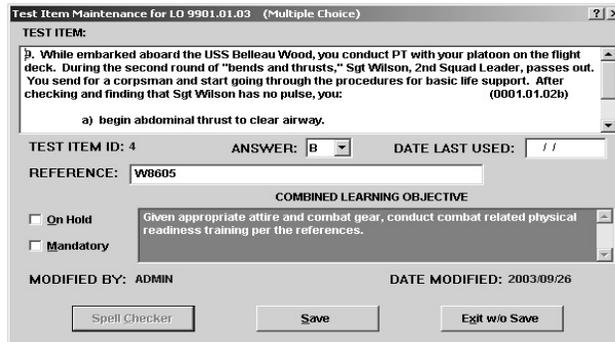
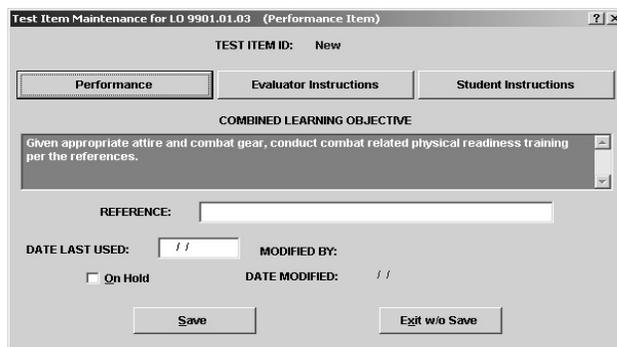
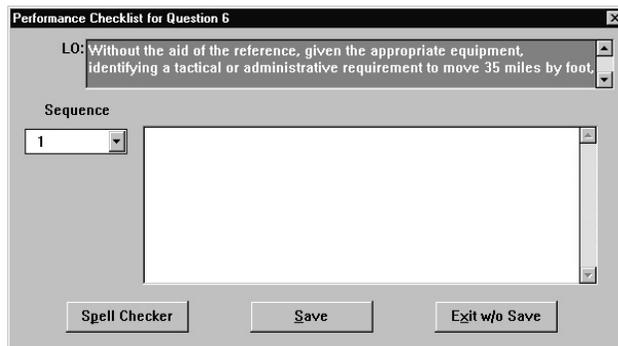

Figure 6-65. Test Item Maintenance for LO (Multiple Choice)
Figure 6-66. Test Item Maintenance for LO (Performance Item)
Figure 6-69. Performance Checklist for Question
- a. If you select Multiple Choice or True-False, the Test Item Maintenance for LO dialog box (Figure 6-65) opens. Note that the title bar identifies the TLO or ELO designator with which you are working. The title bar also identifies the test item type as Multiple Choice or True-False.
(2) Click on **Save**. If you have not entered a test item, you receive a message advising you that you must enter a test item prior to saving. Click on OK. Otherwise, MCAIMS returns you to the Learning Objective Test Items for LO selection list box. When you click on Done, a message advises you to reprint the LOW for this learning objective if changes to test items have been made. Click on OK to return to the Learning Objective Maintenance selection list box.
b. If you select Performance, the Test Item Maintenance for LO (Performance Item) dialog box (Figure 6-66) opens. Note that the title bar identifies the TLO or ELO designator with which you are working. The title bar also identifies the test item type as Performance Item.
- (b) Click on **S**ave. This returns you to the Test Item Maintenance for LO dialog box (Figure 6-66).
- (b) Click on **S**ave. This returns you to the Test Item Maintenance for LO (Performance Item) dialog box (Figure 6-66).
- (3) Referring to Table 6-126 for an explanation of the data fields, complete the required information.
- (4) Click on **S**ave. The system returns you to the Learning Objective Test Items for LO.
- c. If you select Performance Checklist, the Test Item Maintenance for LO (Performance Checklist) (similar to Figure 6-66) opens.
- (1) Click on **Performance Checklist**. The Performance Checklist for Question dialog box (Figure 6-69) opens. Note that the title bar identifies the question number with which you are working.
- (3) Click on **Add**. The Performance Checklist for Question dialog box (Figure 6-69) opens.
- (4) If you wish to edit an existing checklist item, highlight the desired item and click on **Edit**. A dialog box (similar to Figure 6-69) opens for you to edit the item or resequence it. Make the appropriate changes. Click on **Save** to return to the Performance Checklist for Question selection list box.
- (5) If you wish to delete checklist item(s), use the multiple select feature to highlight the desired item(s) and click on **Delete**. A message appears to confirm your wish to delete the checklist item(s). Click on **Yes**. MCAIMS deletes the items, resequences them, and returns you to the Performance Checklist for Question selection list box.
- (6) Click on **Done**. This returns to the Test Item Maintenance for LO (Performance Checklist) dialog box (similar to Figure 6-66).
- (7) Referring to Table 6-126 (Step b), enter the required information to complete the performance checklist for the learning objective.
- (8) Click on **Save**. The system returns you to the Test Item Maintenance for LO.
- a. If you select Multiple Choice or True-False, the Test Item Maintenance for LO dialog box (similar to Figure 6-65) opens. Note that the title bar identifies the TLO or ELO designator with which you are working. The title bar also identifies the test item type as Multiple Choice or True-False.
- (1) Referring to Table 6-125 for an explanation of the data fields, edit the information as needed.
- (2) Click on **Save**. The system returns you to the Learning Objective Test Items for LO. When you click on **Done**, a message advises you to reprint the LOW for this learning objective if changes to test items have been made. Click on **OK** to return to the Learning Objective Maintenance selection list box.
- b. If you select Performance, the Test Item Maintenance for LO (Performance Item) dialog box (Figure 6-66) opens. Note that the title bar identifies the TLO or ELO designator with which you are working. The title bar also identifies the test item type as Performance Item.
- (2) Referring to Table 6-126 for an explanation of the data fields, edit the information as needed.
- (3) Click on **Save**. The system returns you to the Learning Objective Test Items for LO. When you click on **Done**, a message advises you to reprint the LOW for this learning objective if changes to test items have been made. Click on **OK** to return to the Learning Objective Maintenance selection list box.
- c. If you select Performance Checklist, the Test Item Maintenance for LO (Performance Checklist) dialog box (similar to Figure 6-66) opens. Note that the title bar identifies the TLO or ELO designator with which you are working. The title bar also identifies the test item type as Performance Checklist.
- (1) Click on Performance Checklist. The Performance Checklist for Question (Figure 6-69) opens.
- (b) If you wish to enter a checklist item for the highlighted learning objective in the memo text box, click on **Add**. The Performance Checklist for Question dialog box (Figure 6-69) opens.
- (e) Click on **Done**. This returns to the Test Item Maintenance for LO (Performance Checklist) dialog box (similar to Figure 6-66).